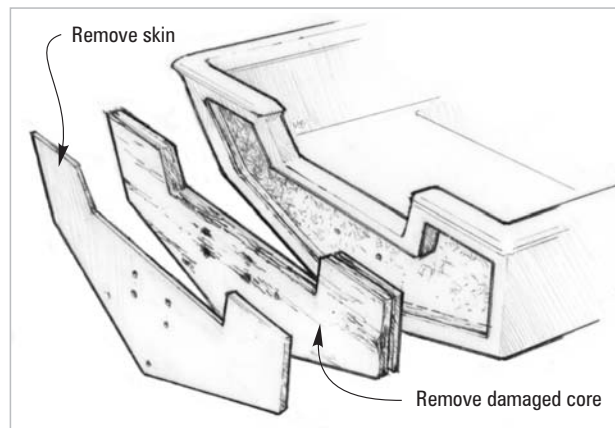

Figure 5-9 Cut through the outer skin at the perimeter of the core. Remove the skin and the core if it is delaminated or rotted.
4. Remove the damaged plywood core (*Figure 5-9*). Use a chisel or whatever combination of tools you need to remove all damaged material. The plywood core in the perimeter and corners of the transom will be the biggest challenge. If necessary, use large drill bits to carefully weaken and remove stubborn areas. Rotary rasps can also be effective. Home made tools similar to a grub hoe or an adz can be used to remove the stubborn perimeter areas. Shave all traces of the core material from the inner skin, being careful not to damage the skin. Make any necessary repairs to the inner skin. Sand the skin to prepare for bonding.